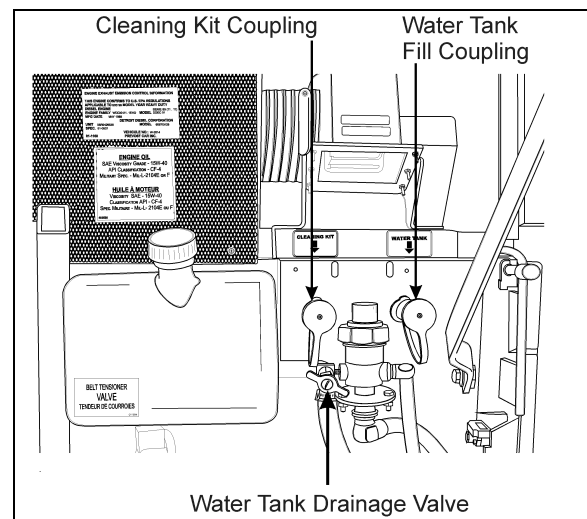

FIGURE 25: FRESH WATER TANK SERVICE VALVES
2. Insert projection at end of "BOBRICK" key into rectangular hole in cover (Figure 25). Push straight in. While holding "BOBRICK" key in, turn cover counterclockwise about 1/8 turn.